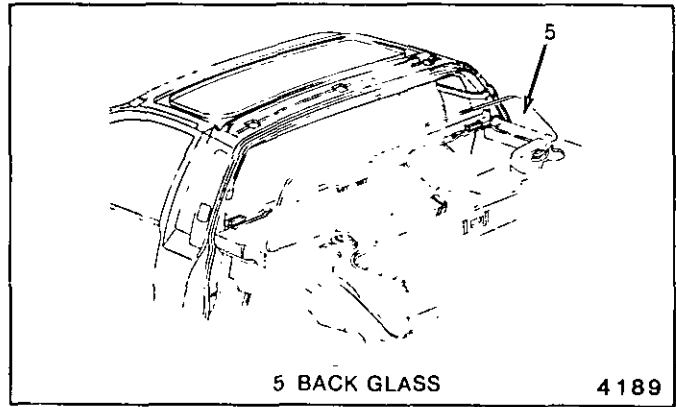

Fig. 6-Installing Back Glass
**↔ Remove or Disconnect (Figure 6)**
17. With the aid of a helper, pull piano wire around edge of glass (5), starting at the top (one person inside and one person outside the car).
**↔ Install or Connect (Figure 6)**
3. Remove glass (5)